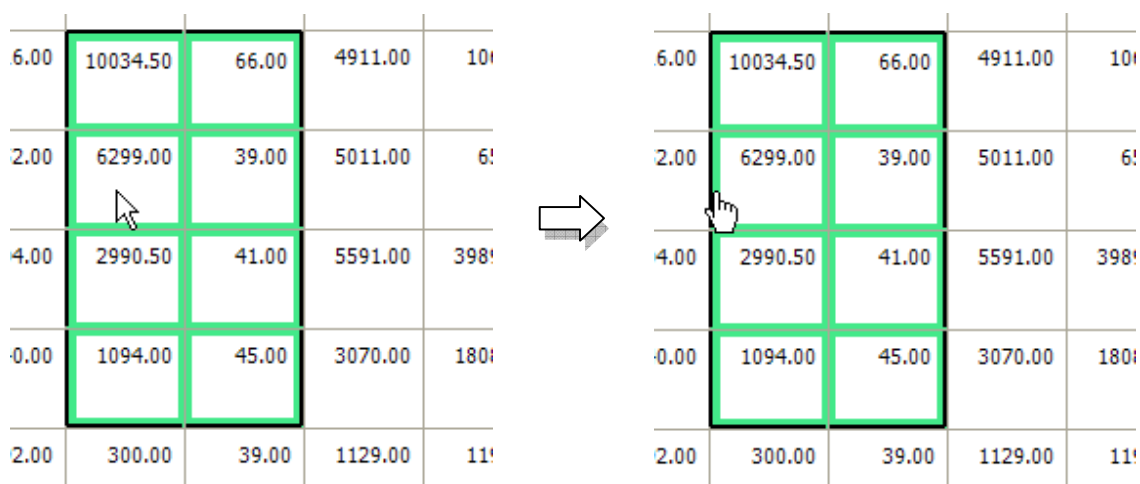

Figure 4.9 Mouse pointer changes to 'hand' icon
1. While hovering over a replicate group border, the mouse pointer changes to a 'hand' icon (Figure 4.9).